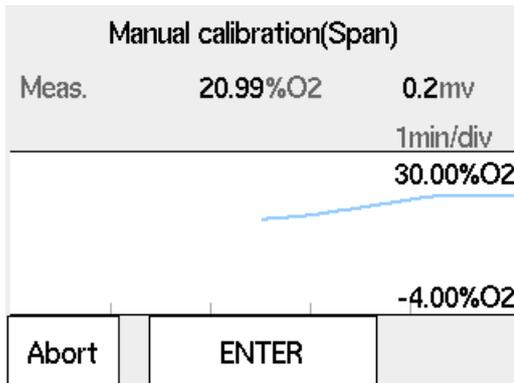

Figure 7.18 Trend during Span gas calib.
- (4) Selecting "Start calibration" displays the trend graph of the oxygen concentration being measured (Fig. 7.18) on screen. Wait for the reading to stabilize around 21% by monitoring the graph and the sensor electromotive force. At this point, calibration is not yet executed. It is acceptable for the reading to deviate from 21%.